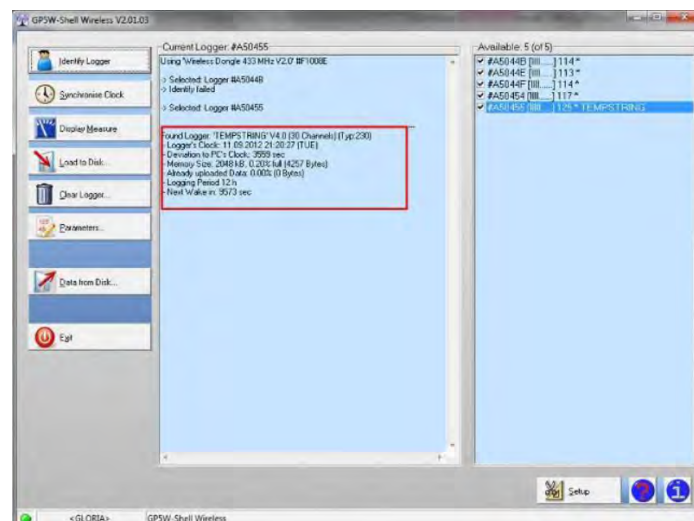

Figure 38: In the red box on the left, battery status, memory status and logger time.
2. Once you have clicked "identify logger" it will attempt to connect, once connected it will give the current logger status such as seen below in Fig. 38.